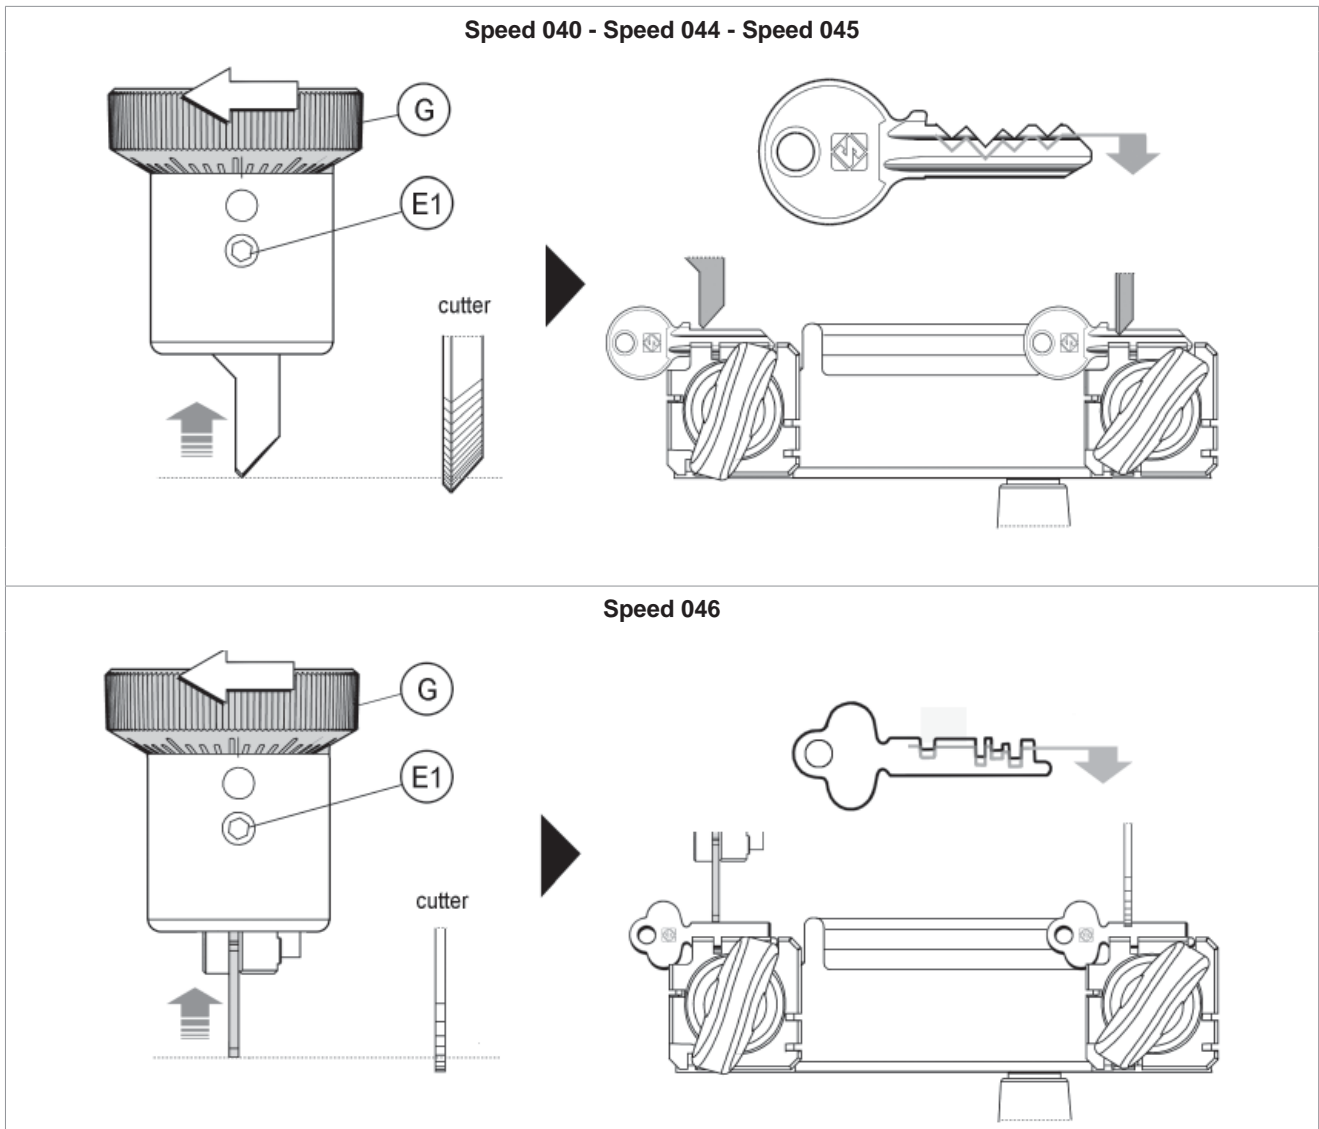

Fig. 23
- c) turn the ring nut (G) counterclockwise to return (Fig. 23).